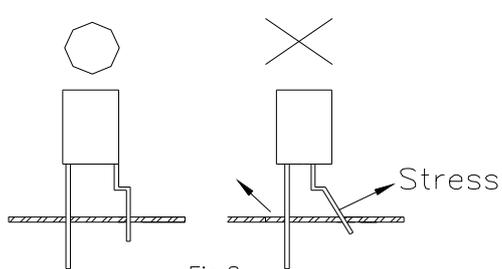

Fig.8
- 3) Form the lead to ensure alignment between the leads and the holes on PCB, so that stress against the LED is prevented. (Fig.8)